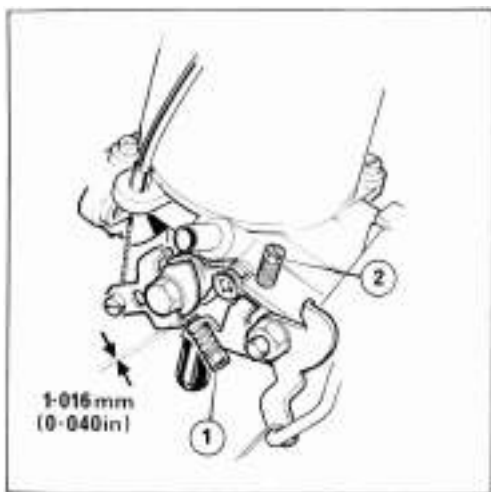

Figure 42 Carburettor adjustment
- 2 Turn the throttle adjusting screw (**Figure 42**) clockwise to increase speed, or
Pull out the mixture control (choke) until the linkage is just about to move the jet. Start the engine and adjust the fast idle screw (**Figure 42**) to give an engine speed of 2,250 rpm.